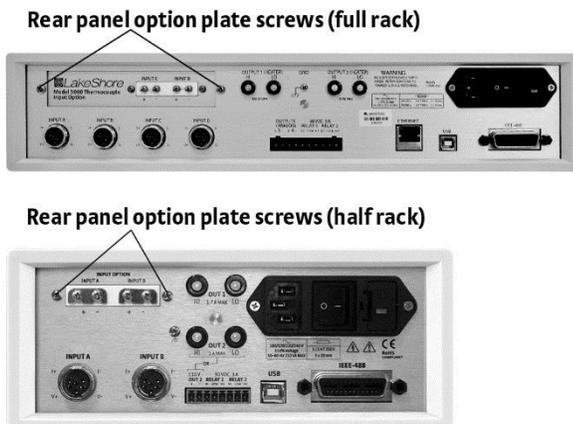

Figure 2. Option plate screws
6. Remove the rear panel option plate screws and set them aside (Figure 2). Remove the rear panel option plate.